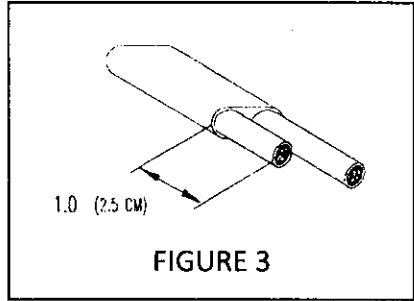

FIGURE 3
- 2.2 Cut one of the lead wires 1.0 in. [2.5 cm] (Fig. 3).